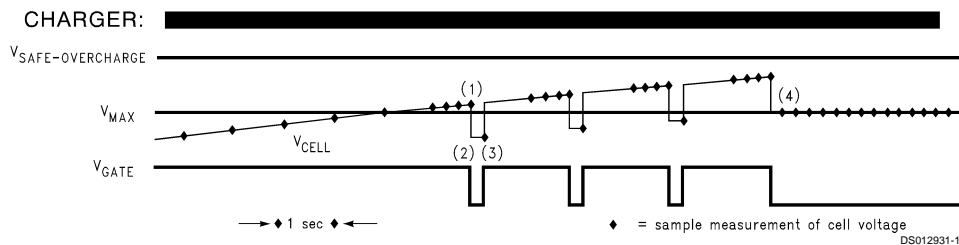

FIGURE 1. Normal Termination of Charging
As you can see in *Figure 1*, the cell voltage must exceed  $V_{MAX}$  for 4 consecutive samples before the MOSFET pair is turned OFF (1). Once  $V_{MAX}$  is exceeded, the sampling rate increases to 4 Hz. The sampling rate will return to 1 Hz only after 4 consecutive samples result in  $V_{CELL} < V_{MAX}$ . After the MOSFET pair is OFF (2), the voltage across the cell(s) relax and the cell voltage will drop below  $V_{MAX}$ . On the next sample, (3), the MOSFET pair will turn ON. As long as the charger is applied and the MOSFET pair turn ON, the cell voltage will exceed  $V_{MAX}$  again. The cycle of 4 samples ON a 1 samples OFF will continue until the cell voltage equals  $V_{MAX}$  after the MOSFET pair is OFF, (4). This example exaggerates the rate of these events. The actual operation would result in many ON/OFF cycles at a decreasing duty cycle prior to complete termination of charge. The cell bypass resistor will discharge the cell enough to turn on the GATE over a period of minutes.